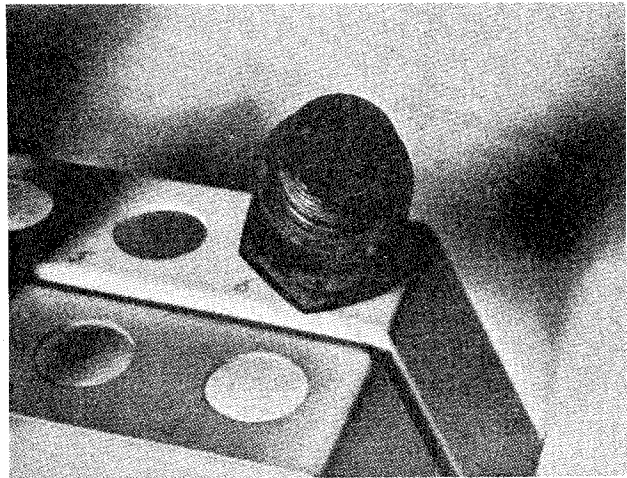

Fig. 40 Petrol fouling indicated by a dry fluffy black deposit on the Insulator.
- (c) Next, look for petrol fouling indicated by a dry fluffy, black deposit (Fig. 40). This is caused by many things—faulty carburation, ignition system, defect in battery, distribution coil or condenser, broken or worn-out cable.